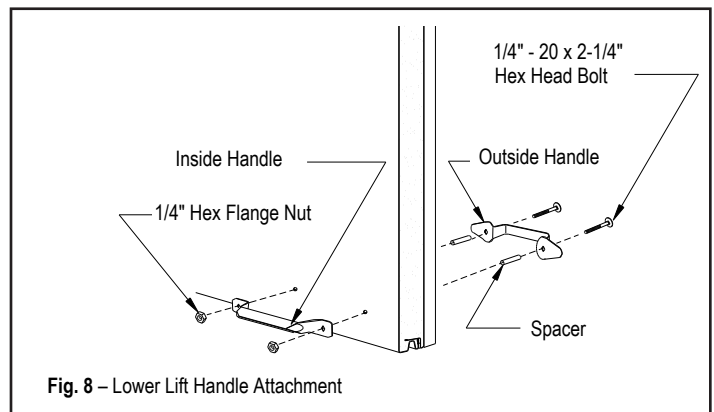

Fig. 8 – Lower Lift Handle Attachment
Step 5: Attach the black ornamental handle (outside) and the steel roll grip handle (inside) to the door using two 1/4" - 20 x 2-1/4" black painted hex head bolts, and two 1/4" hex flange nuts (see Fig. 8).